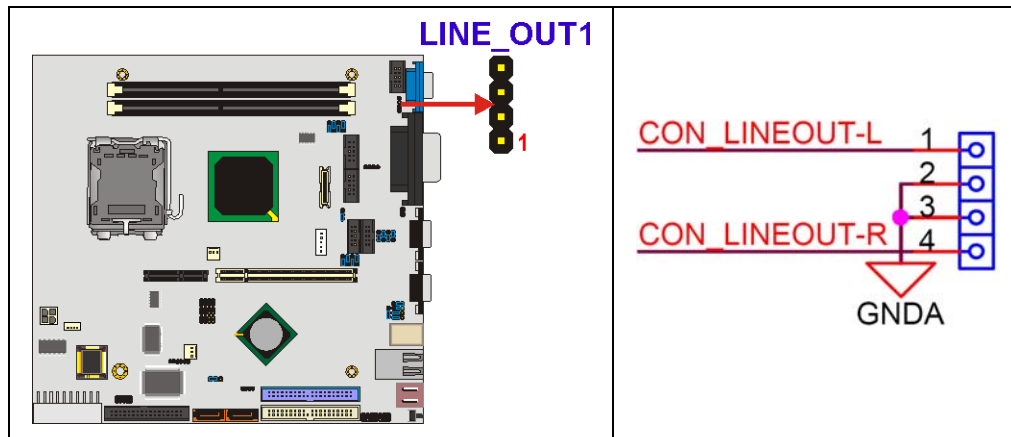

Figure 3-6: Audio Line Out Connector Location
- CN Location:** See Figure 3-6